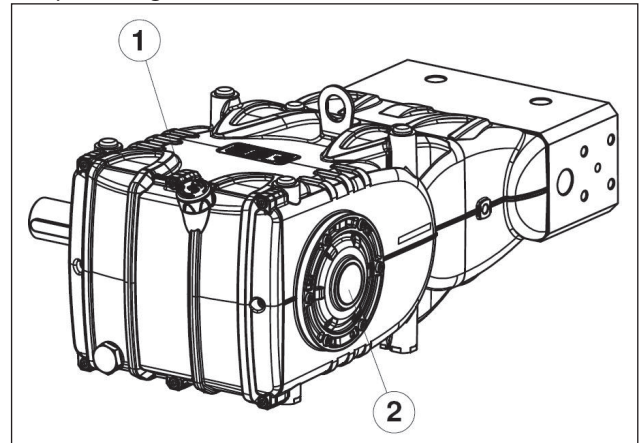

Fig. 15
5. Oil in the pump casing is at level, verified with a dipstick (pos. ①, Fig. 15) and exceptionally with a level indicator (pos. ②, Fig. 15).